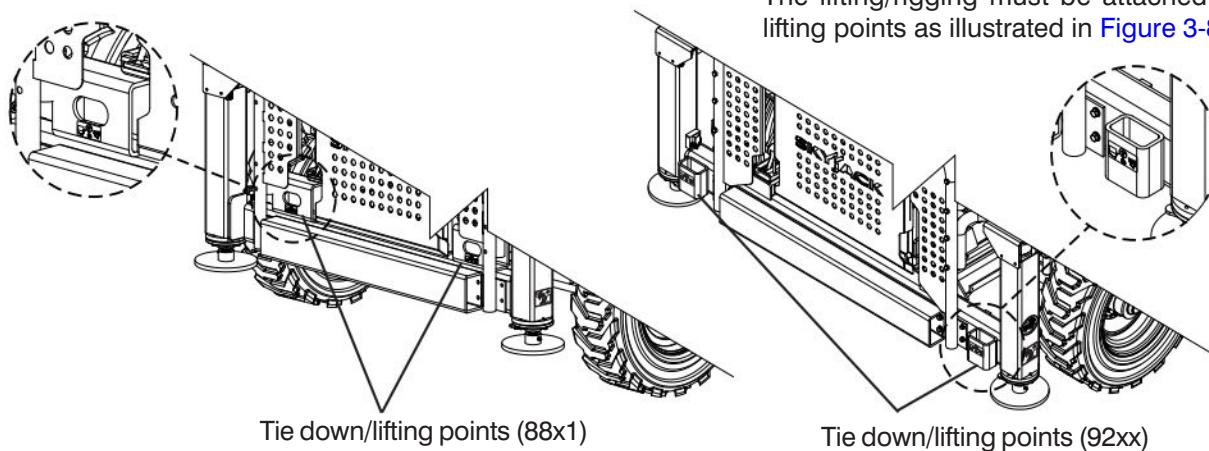

Figure 3.8. Tie Downs/Lifting Points
- The lifting/rigging must be attached to all four lifting points as illustrated in Figure 3-8.
When transporting, the aerial platform must be secured to the truck or trailer deck. Tie downs are available as illustrated in Figure 3-8.